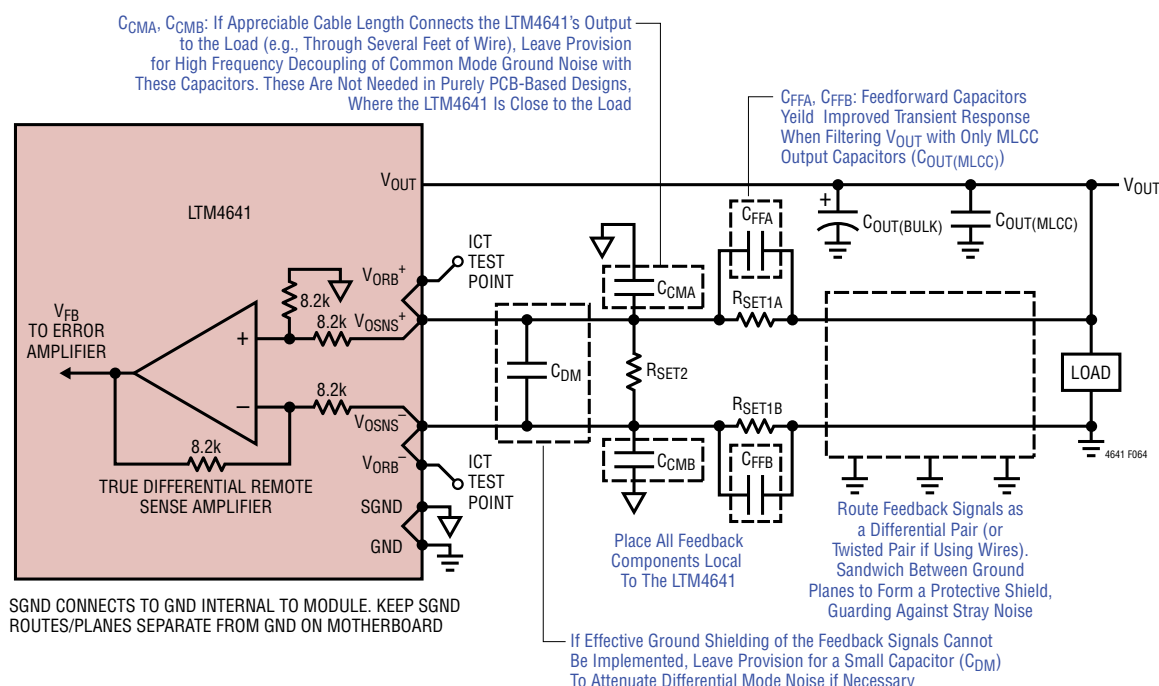

Figure 64. Feedback Remote Sense Connections and Techniques for Harsh Operating Environments
- Place all feedback components as close to the module as possible, giving layout priority first to capacitors C_{FFA} , C_{FFB} , C_{CMA} , C_{CMB} and C_{DM} (if used)—followed next by R_{SET1A} , R_{SET1B} and R_{SET2} (if used). See Figure 5 in the Applications Information section and Figure 64 in Appendix D for more details. Maintain differential routing of the remote-sense lines between the load and the module. Form a “coaxial cable” structure that surrounds the remote-sense lines with GND potential within the PCB, to the extent that layout permits. See an example of routing the VOUT/GND remote-sense pin pair in Layer 3 of DC1543.
The rationale for using the symmetrical resistor network is to provide a consistent feedback structure that enables fully differential remote-sense of output voltages between 0.6V and 6V with the flexibility to filter differential and common mode noise in harsh environments. See Figure 64. The use of not greater than 8.2k Ω nominal resistors for R_{SET1A} (and R_{SET1B}) assures that the remote-sense signal is not attenuated at frequencies of interest by the pole formed by the feedback resistors and parasitic capacitances.